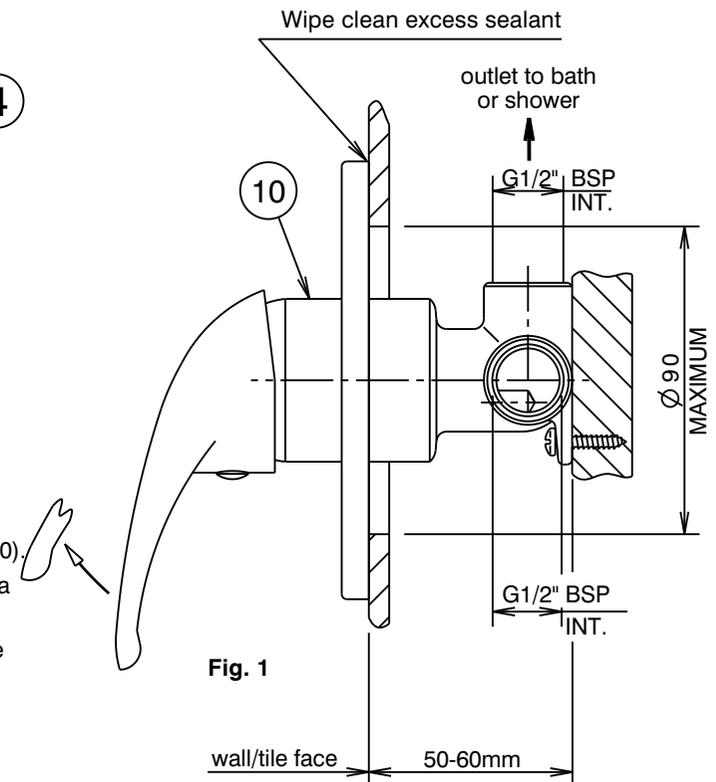

Fig. 1
Installation (Fig. 1)
Fit rubber seal (5) into cover plate (6). **Note:** Cover plate (6) is marked to indicate 'Hot' & 'Cold'. Ensure markings are horizontal, with 'HOT' to the left, then push firmly against the cover plate (6) until it contacts the wall/tile face & the sealant has formed a waterproof joint. Wipe clean any excess sealant from the chrome surfaces & the wall/tile face (See Fig. 1).
- 3) Fit handle (1) taking care that it is pushed fully onto cartridge stem, tighten screw (2) using the 2.5mm allen key (4).